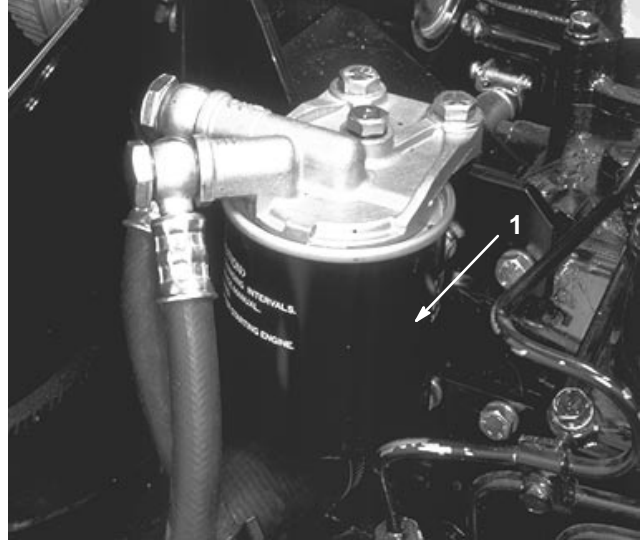

Figure 39
3. Every 1000 hours operation, or yearly, replace the engine fuel filter (Fig. 39)—left front side of engine—and drain water from the fuel tank. Apply clean fuel oil to the filter O-ring. Use hands only to install and tighten filter.